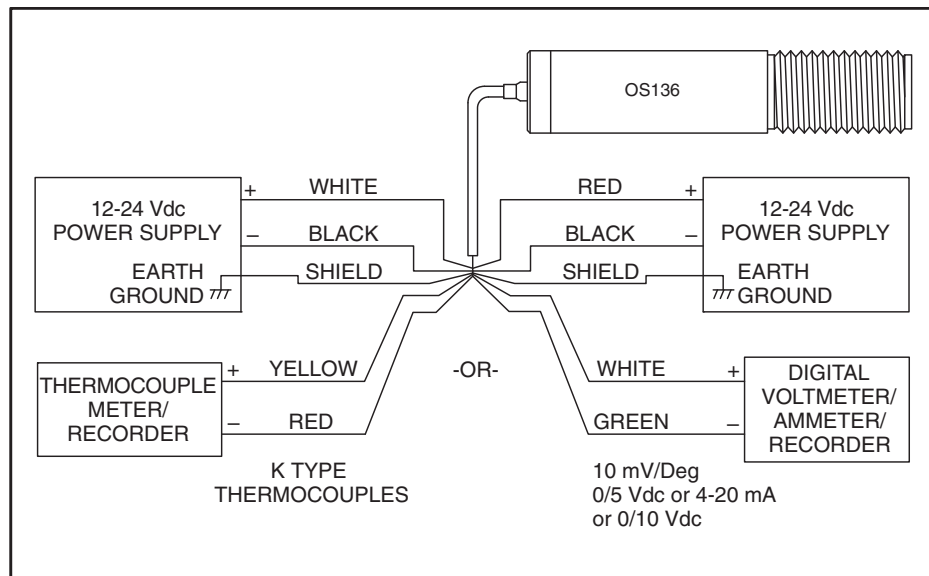

Figure 2-1. General Wiring Diagram
The shielded cable provides the power and output connections. Fig 2-1 shows the wiring diagram for different analog outputs.
- ✓ The Power and output connections are made (Fig 2-1)